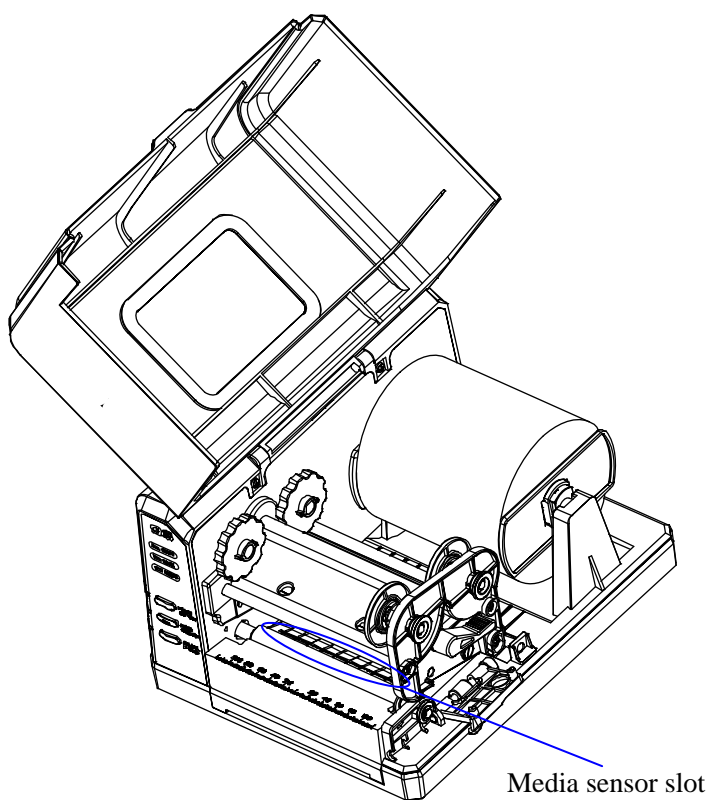

Figure 7-1
1. Lift the top cover (see Figure 7-1).